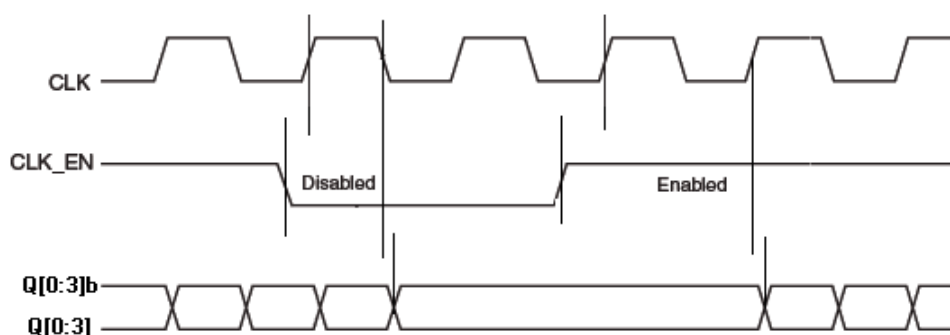

Figure 3. CLK\_EN TIMING DIAGRAM
1. After CLK\_EN switches, the clock outputs are disabled or enabled following a rising and falling input clock edge as show in Figure 3.